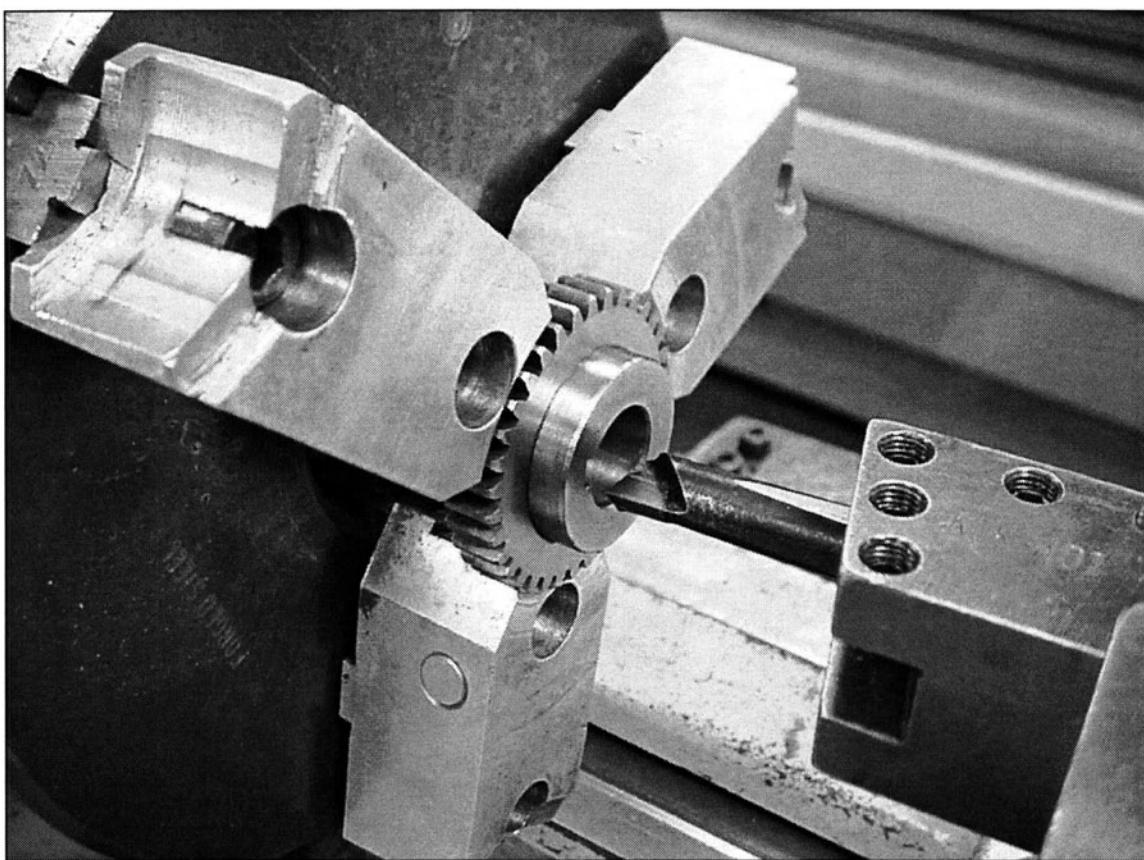

FIGURE 6-22 A gear is held with soft jaws to avoid damaging the gear teeth.
32. *When boring the hub of a gear, use the gear teeth for reference. (See Fig. 6-22)*